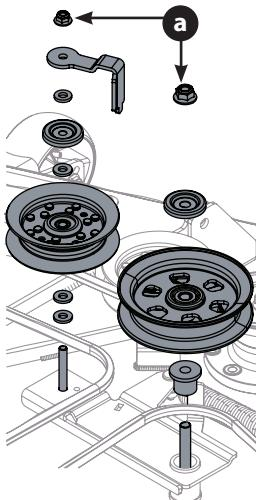

Figure 50
- Remove the two idler pulley assemblies by removing the flange lock nuts (a) at the top of the assemblies, then removing the assemblies from the idler arm (Figure 50).